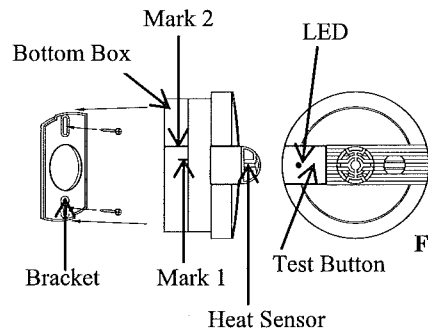

Fig. 5
5. Re-assemble the bottom box with the main body. The marks should be at the position shown in Fig. 5 after combination. And then tighten the Screw A.